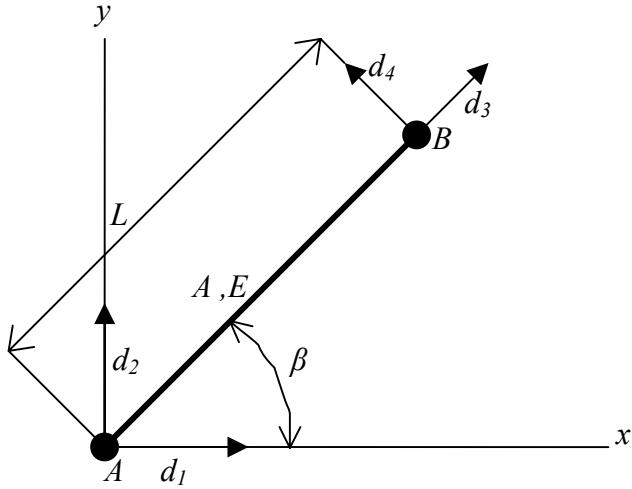

Fig.1. Uniform bar element.
**Q1.** Displacement degree of freedom (d.o.f)  $d_i$  at ends  $A$  and  $B$  of a uniform bar element have the directions as shown in the Figure 1. Write an expression for the potential energy functional ( $\Pi_P$ ) in terms of these d.o.f. From the stationary condition  $\delta\Pi_P = 0$ , obtain the element stiffness matrix that operates on these four d.o.f